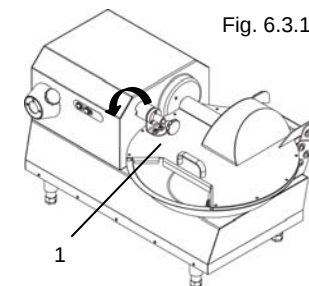

Fig. 6.3.1
- Rotate the lid release knob "1" counter-clockwise (Fig. 6.3.1).